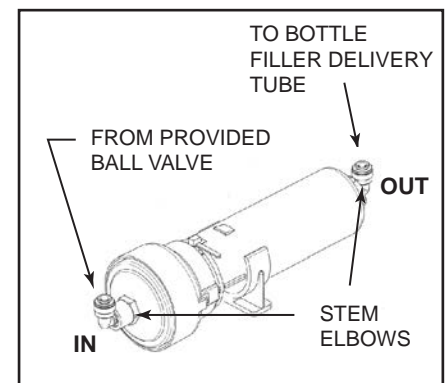

FIG. 8
- (B) INSTALL PROVIDED STEM ELBOWS (SEE FIG. 8)
- (C) CUT THE TUBE TO THE CHILLER INLET
- (D) CONNECT TUBING FROM BALL VALVE TO FILTER IN. CONNECT FILTER OUT TO CHILLER IN.